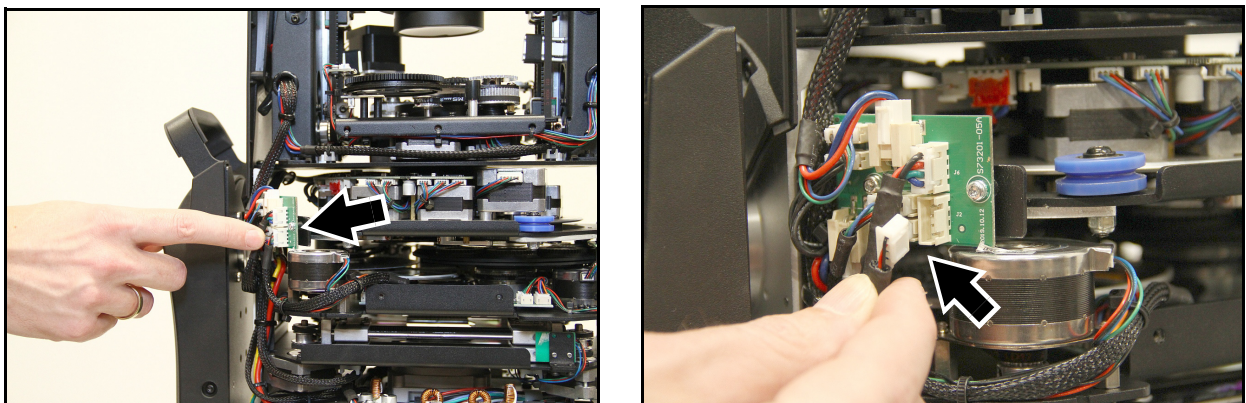

Figure 12: Disconnecting the effects module
4. See Figure 12. Locate the effects module connector (arrowed) and disconnect it from the PCB on the left of the head. Let the connector and wireset hang free.